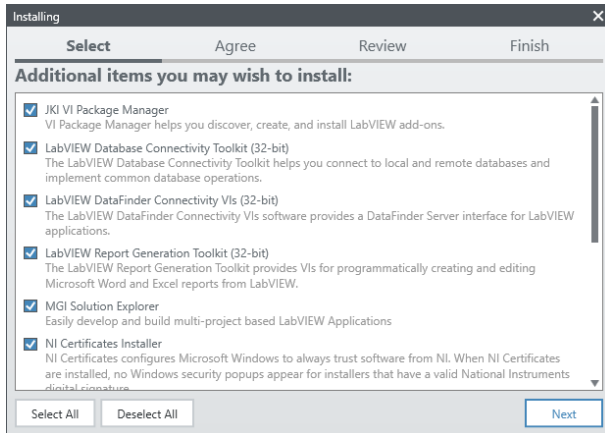

Figure 2-14 Selection window for LabVIEW components
8. When the installation of NI Package Manager is complete, it will move onto LabVIEW installation window. Here we select add-on packages to LabVIEW. Leave everything selected, and click Next (Figure 2-14).